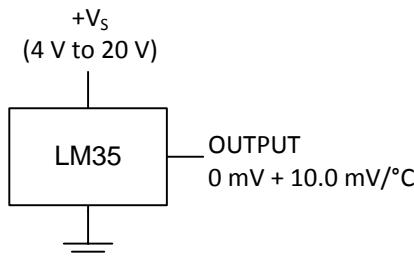

Figure 14. Basic Centigrade Temperature Sensor (2 °C to 150 °C)
Unless otherwise noted, these specifications apply: $-55^\circ\text{C} \leq T_J \leq 150^\circ\text{C}$ for the LM35 and LM35A; $-40^\circ\text{C} \leq T_J \leq 110^\circ\text{C}$ for the LM35C and LM35CA; and $0^\circ\text{C} \leq T_J \leq 100^\circ\text{C}$ for the LM35D. $V_S = 5 \text{ Vdc}$ and $I_{LOAD} = 50 \mu\text{A}$, in the circuit of Full-Range Centigrade Temperature Sensor. These specifications also apply from 2°C to T_{MAX} in the circuit of Figure 14.
(6) Quiescent current is defined in the circuit of Figure 14.